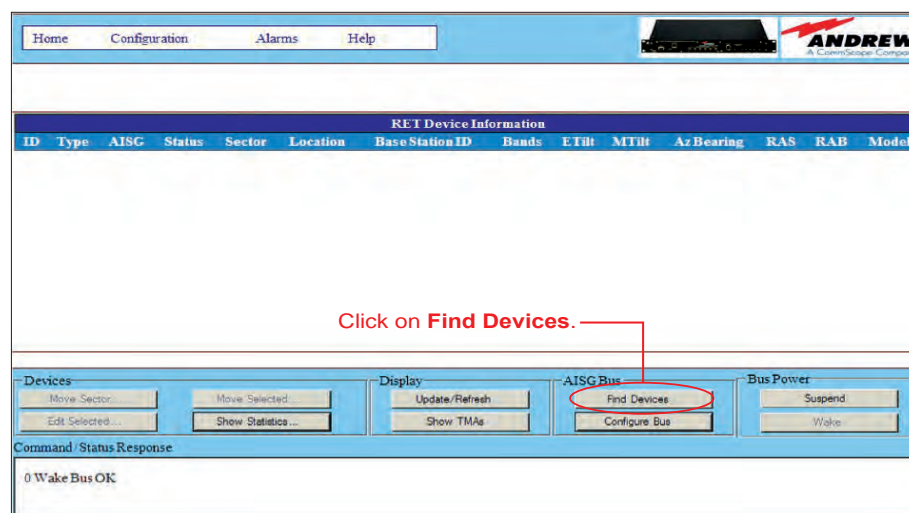

Figure 11-1. Selecting **Find Devices** On The Main Interface Screen.
(Figure 11-1).
To begin adding a device manually to the controller's system, click on **Configure Bus** from the controller's main interface screen (this button is located under the **Find Devices** button as shown in Figure 11-1).
1. To begin removing a device from the controller's system, click on the device from the controller's main screen to select it and then click on **Configure Bus**. The **Configure Bus** button is located under the **Find Devices** button in the lower portion of the screen as shown in Figure 11-1.